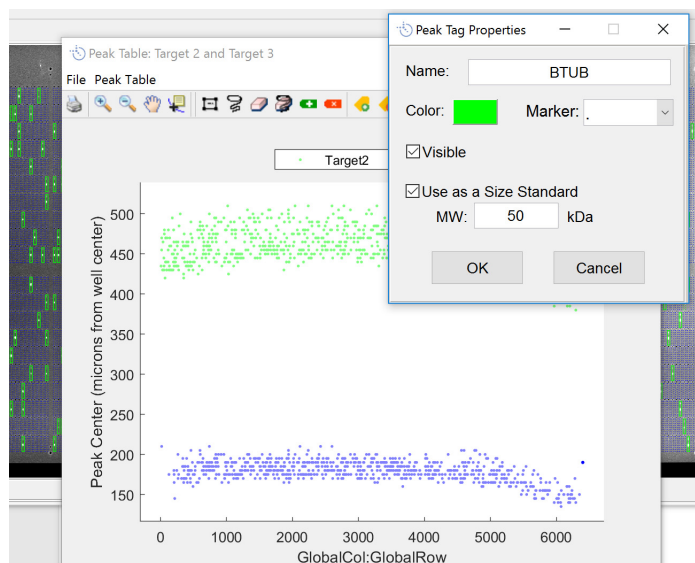

Figure 6-6: Creating a peak tag for MW sizing proteins.
2. In the Peak Table, create a tag for and label the MW sizing proteins. Select **Use as a Size Standard** and enter the known molecular weight for any peak tag that will be used as a sizing reference (Figure 6-6).